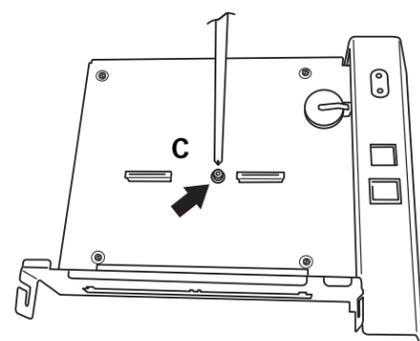

Figure 2.3 Remove securing screw
3. Remove securing screw C (figure 2.3) and shakeproof washer, and retain for use in re-assembly.